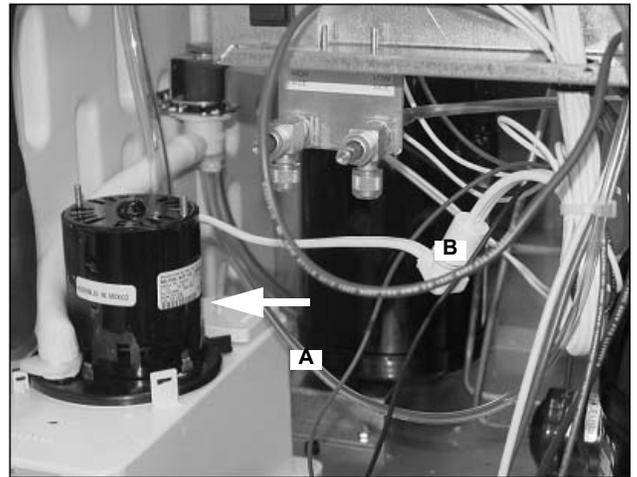

Figure 51.
55. Connect the pressure transducer tube (A) to the water pan.
Connect the water pump motor harness (B) (Figure 51).